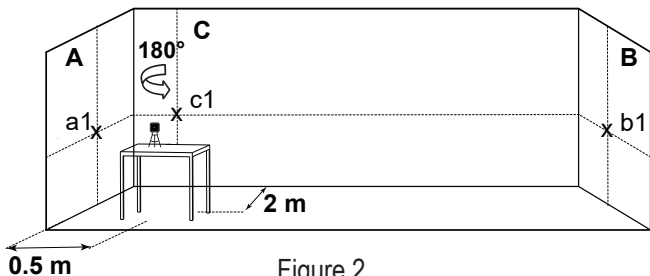

Figure 2
- 7) Mark on wall **B** the intersection point as **b1**(see figure 2).